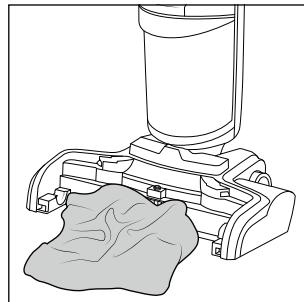

Fig. 36
- ◆ If the brush chamber is dirty, wipe it out with a damp cloth or rag (see fig. 36).